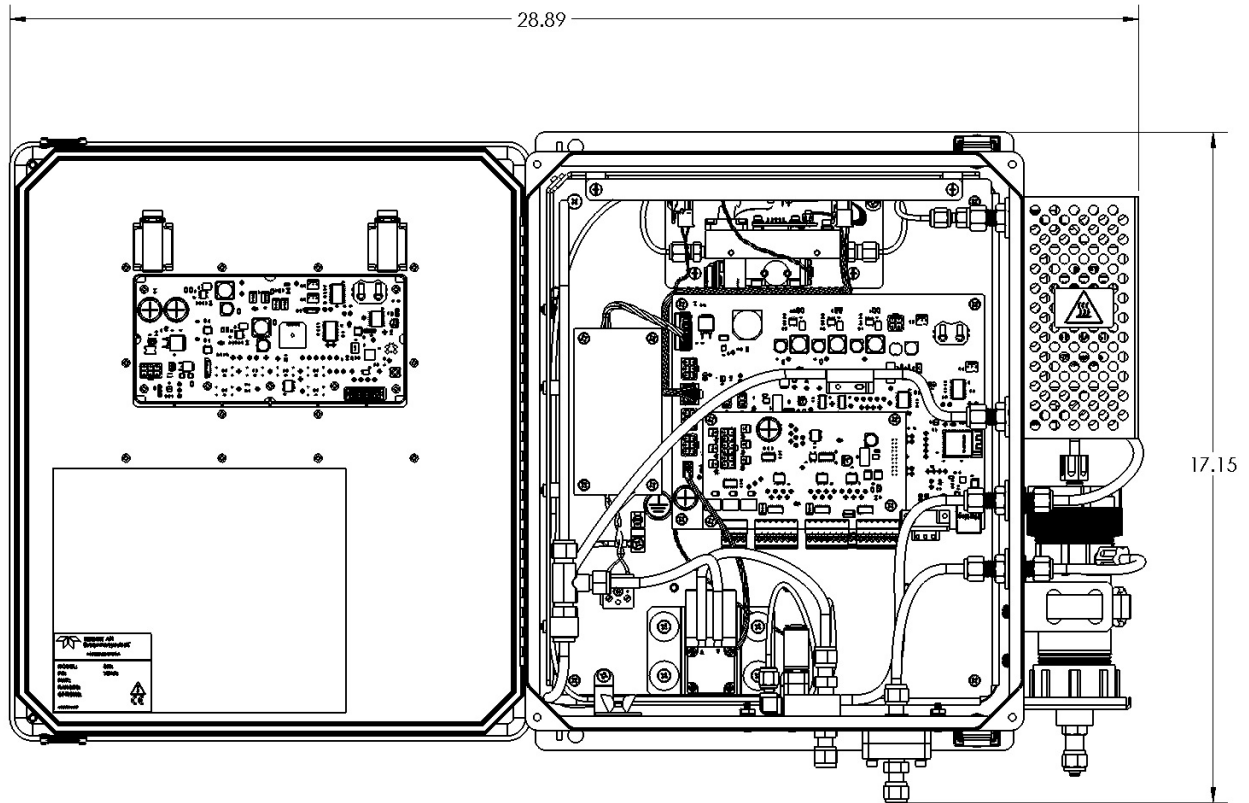

Figure 3-2: 480M Dimensions
- The illustrations in Figure 3-2 show the mounting dimensions and the sizes and locations of the four mounting holes, which are 0.32" (8.128 mm) diameter.